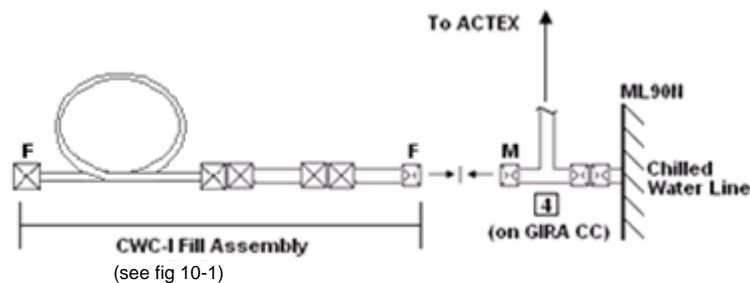

Figure 10-4.- CWC-I Fill Assembly connection at ML90N.
D. CWC-I FILL INIT (see fig 10-4)
2. CWC-I Fill Assembly →|← Chilled Water Line Tee QD (#4 on GIRA Cue Card) (see fig 10-4)